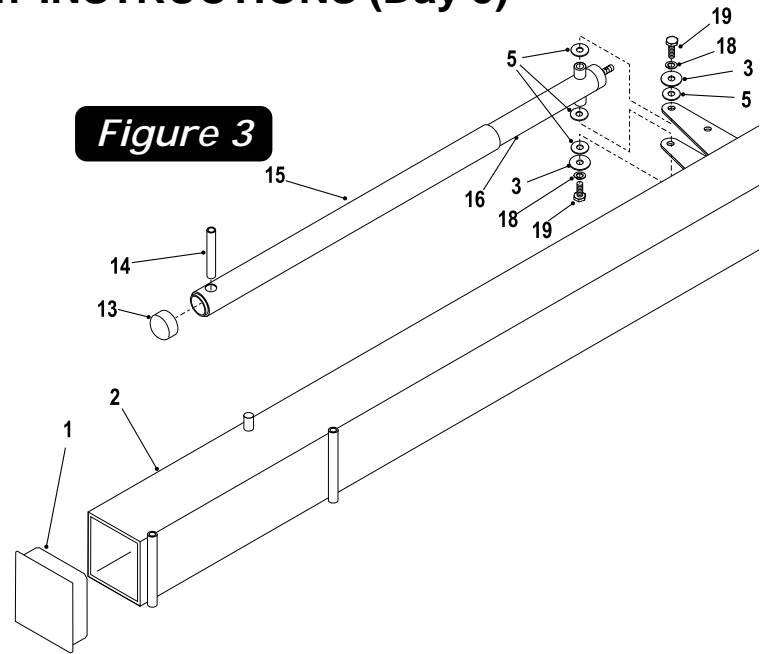

Figure 3
1. Slide Actuator Sleeve (#15) over Actuator (#16) and place Actuator Cap (#13) on top. Slide Pivot Tube (#14) in hole near the top of Actuator until equal amounts stick out on both sides of Actuator. See Figure 3. **NOTE:** It may be necessary to use a hammer or rubber mallet to tap in Spacer.
2. Lay Pole (#2) on its side on two padded saw horses. Secure Actuator (#16) to Pole (#2) using one bolt (#19), split lockwasher (#18), washer (#3) and two plastic washers (#5) to thread into each side of Actuator. See Figure 3. Tighten bolts tight.